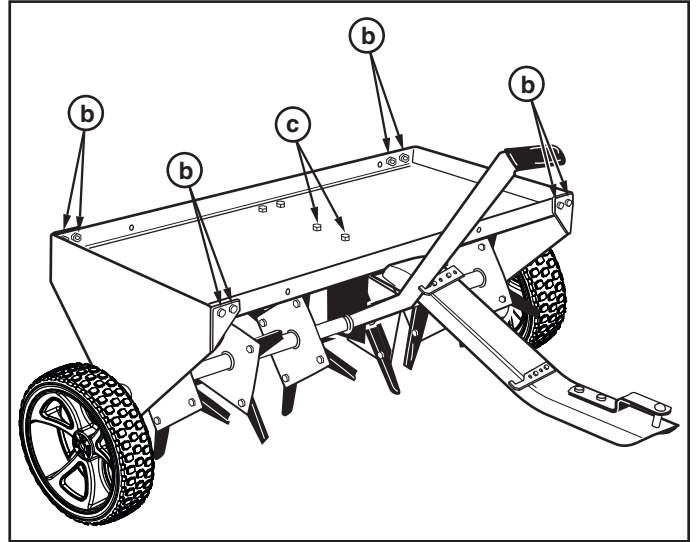

FIGURE 12
18. Perform the following steps in sequence to tighten the bolts and nuts that remain loose. Refer to figure 12.